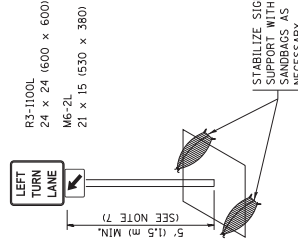

**FIGURE 2**
B) WHEN "L" IS  $>$  THE STORAGE LENGTH OF THE TURN LANE OR THE TURN LANE IS WITHIN THE LANE CLOSURE, USE FIGURE 2.
2. CONES MAY BE SUBSTITUTED FOR BARRICADES OR DRUMS AT HALF THE SPACING DURING DAY OPERATIONS. CONES SHALL BE A MINIMUM OF 28 (700) IN HEIGHT.
4. REFLECTIVE TEMPORARY PAVEMENT MARKINGS SHALL BE PLACED THROUGHOUT THE BARRICADED AREAS OF EACH TURN BAY AS SHOWN WHERE THE CLOSURE TIME IS GREATER THAN FOURTEEN (14) DAYS.
5. THIS APPLICATION ALSO APPLIES WHEN WORK IS BEING PERFORMED IN THE RIGHT LANE(S) AND THE RIGHT TURN BAY IS TO REMAIN OPEN UNDER THIS CONDITION. "RIGHT TURN LANE," R3-I00R 24 x 24 (600 x 600) AND M6-2R 21 x 15 (530 x 380) SHALL BE USED.